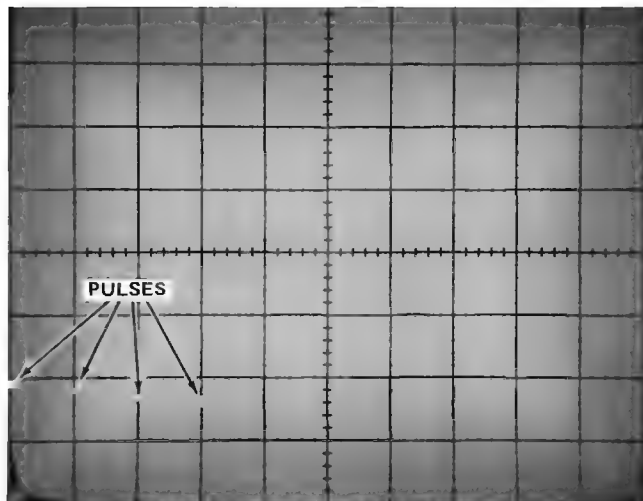

Fig. 5-9. Typical display illustrating step p.
p. CHECK—That the base line is also a pulse (see Fig. 5-9).